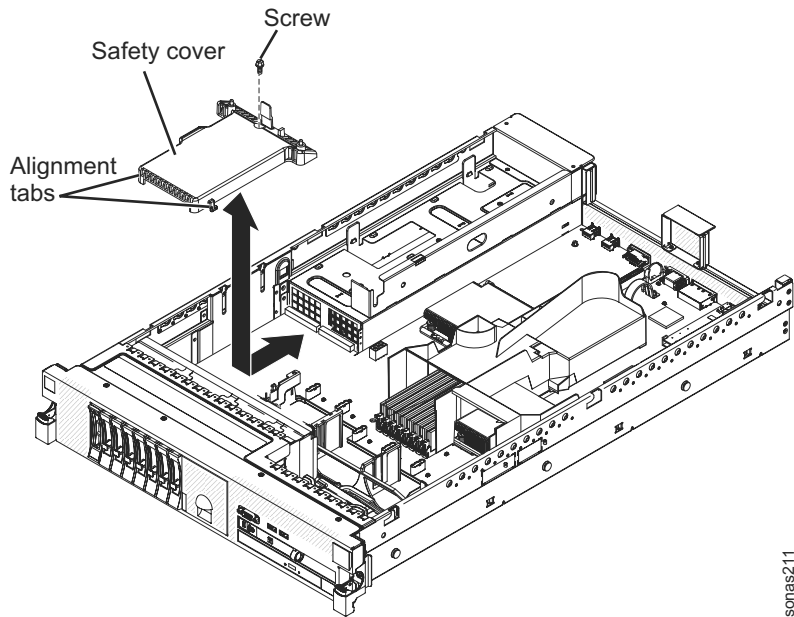

Figure 45. 240 VA safety cover
1. Line up and insert the tabs on the bottom of the safety cover into the slots on the system board. See Figure 45.